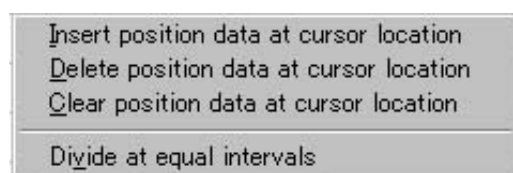

Fig. 5.8 Pop-up Menu
- * The equal division function can also be implemented from the pop-up menu (Fig. 5.8) displayed by right-clicking the position data input area.